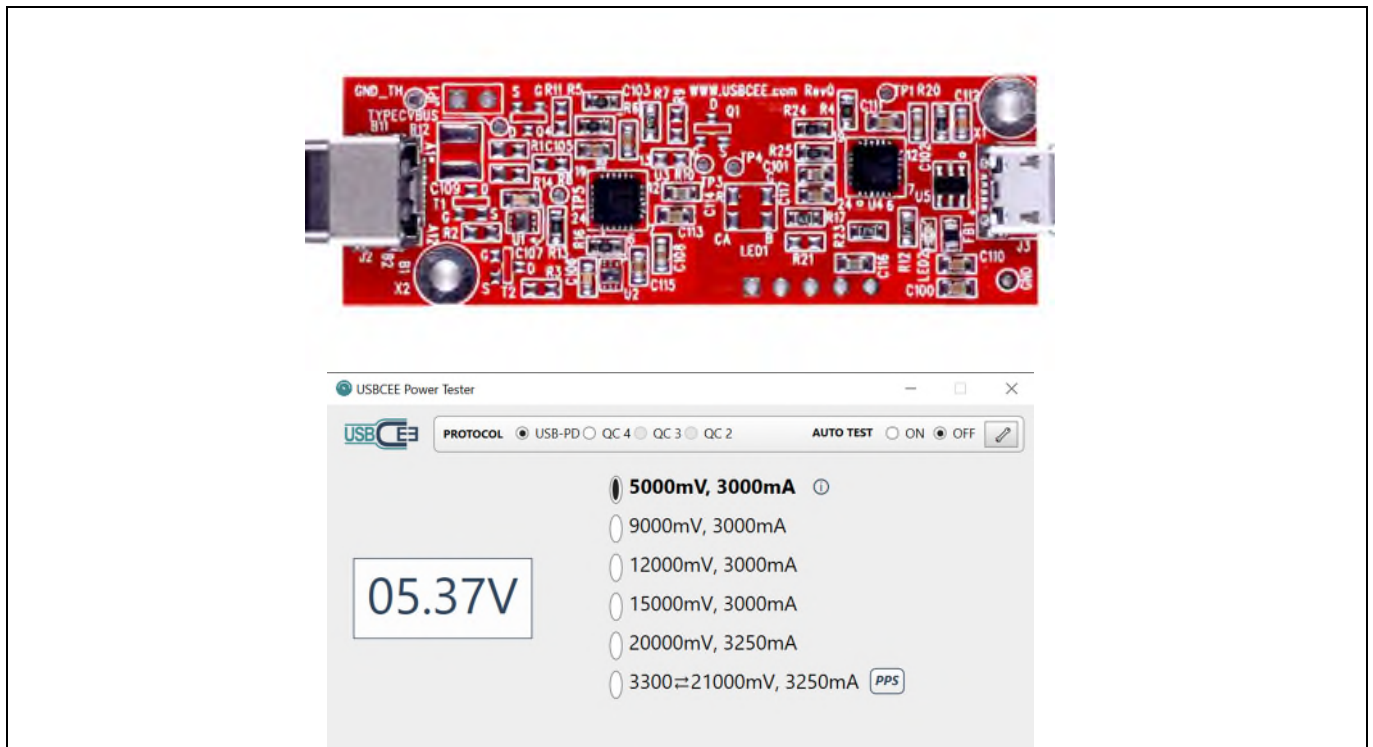

Figure 7 PAT tester and user interface
2. Connect a USB PD tester or a power adapter tester (PAT) to the port and ensure that the USB PD tester gets into a successful Power Delivery contract as shown in Figure 7.